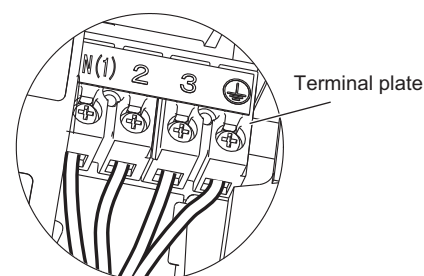

Fig. 17
- (5) Connect the inter-unit wiring to the corresponding terminals on the terminal plate (Fig. 17) while referring to the wiring diagram.